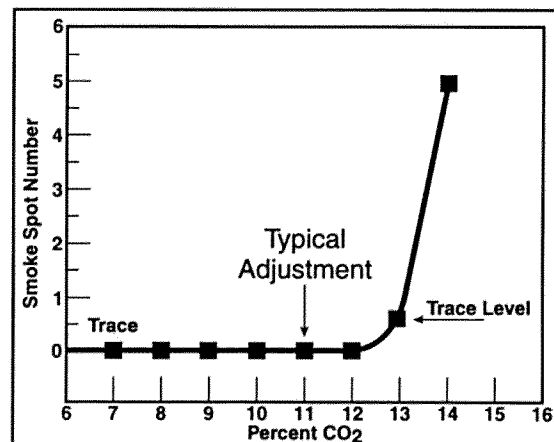

FIGURE 62 Typical smoke vs. CO₂ percent
- (2) At the trace level, measure the CO₂ or O₂. This is typically around 13% CO₂ / 3.3% O₂. (See Figure 62.) Now, increase the air setting until the CO₂ is reduced by 1 to 2 percentage points from a trace of smoke, or the O₂ is increased by about 2 to 3 percentage points.
- (3) Make a smoke test. It should be zero. You have built in a margin to accommodate variables that could be encountered during the heating season.
- (4) Lock the air adjustment and repeat draft, CO₂/O₂, and smoke measurements to make sure the setting has not shifted.